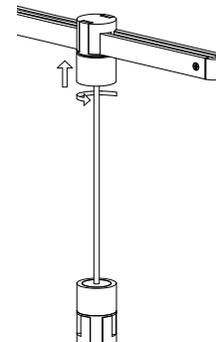

Fig. 10
3. Press the **Hanger Rod** up against the Hanger Hub and screw in the **Hanger Sleeve**. Be sure that the brass contacts on the Power Bar Hanger Hub are touching those on the Hanger Rod (Fig. 10). NOTE: Do not fully tighten.